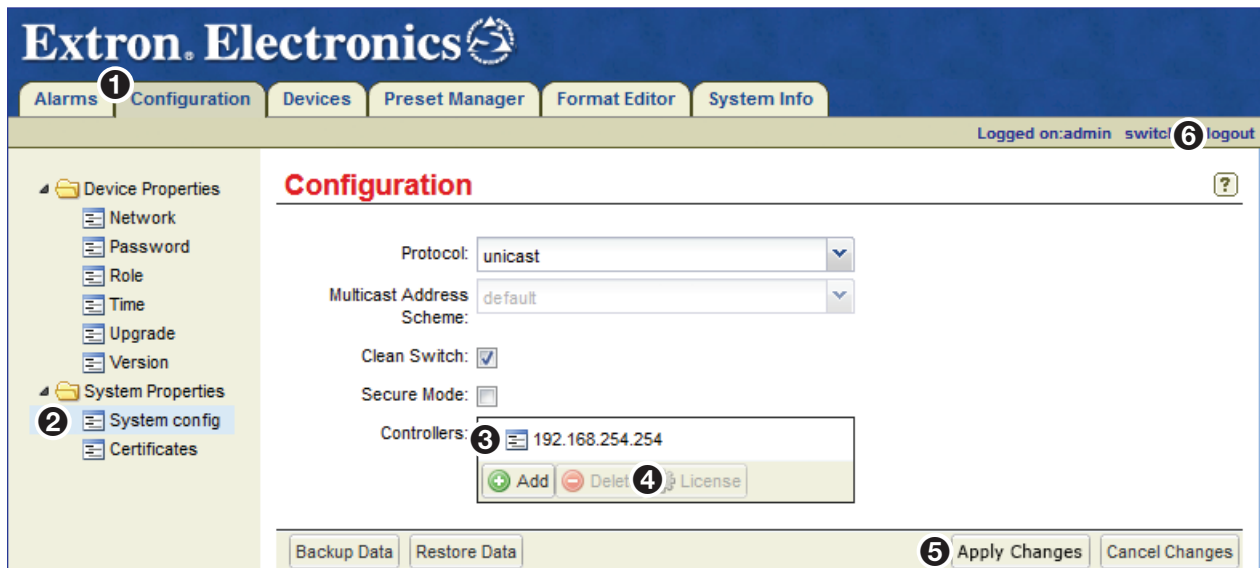

Figure 12. System Configuration Page
1. Click the **Configuration** tab (see figure 12, ①). The Configuration page opens (you may need to log in).
2. On the Configuration page, click the **System config** link (see figure 12, ②).
3. In the **Controllers** field (③), select the IP address of the controller that requires a new license.
4. Click **License** (④).
To log out, click the **logout** link (see figure 12, ⑥) located at the top right of the web page or close the browser.